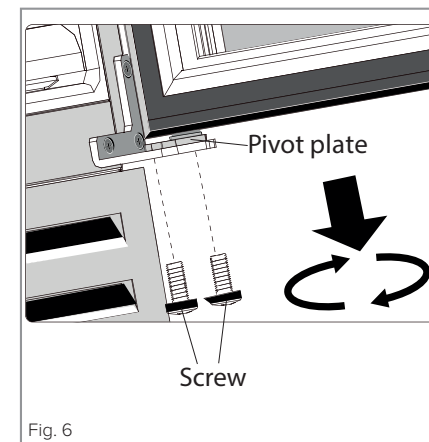

Fig. 6
1. With the help of another, open the door and support it. Loosen and remove the two screws from the pivot plate of the lower right hinge, as per Fig. 6.